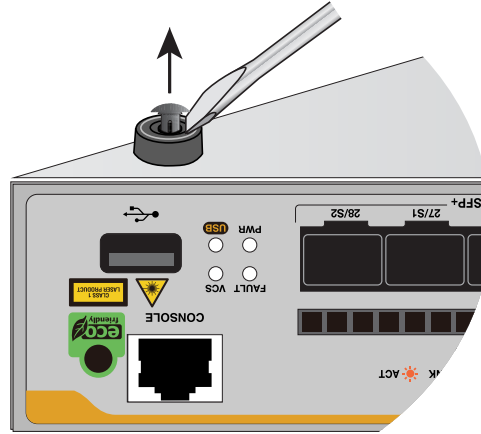

Figure 18. Removing the Bumper Feet
2. Use a small flat-head screwdriver to gently pry the rivet from the bumper feet. See Figure 18.